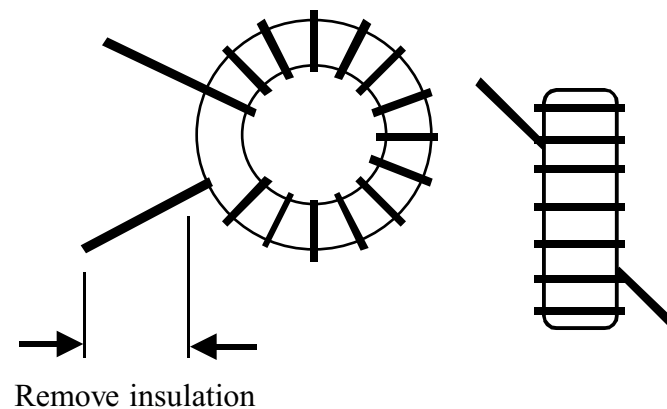

Figure 6-15
- Find RFC14's component outline on the RF board, near the front left-hand corner. Compare this component outline to Figure 6-15, which shows two views of a typical toroidal inductor. RFC14 will be mounted vertically as shown at the right side of the drawing, with one wire exiting at the core's upper left, and the other at the lower right. There are pads on the PC board in these two locations.
To wind RFC14, cut a 9" (23 cm) length of #26 red enamel-coated wire, then "sew" the long end of the wire through the core exactly 10 times. *Each pass through the core counts as one turn.* The finished winding should look very similar to Figure 6-15, but with 10 turns rather than 14.
Strip and tin the leads of the toroid before you mount it on the board. As shown in Figure 6-15, you should remove the enamel from the leads up to about 1/8" (3 mm) from the core. You should see only bare wire (no insulation) on the side to be soldered.
Wind the first winding, 1-2, using 16 turns of red enamel wire (15", 38 cm). This winding must occupy 85% of the core, and will look very similar to Figure 6-15. Remember that each pass *through* the core counts as one turn.